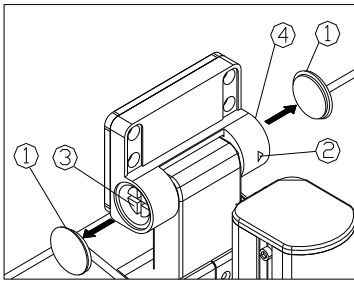

Fig. 4
- 1) Cuspidal tool opening the cap nuts① in two sides, Allen wrench screwing off two M3 hexagon screws② from the cap screws④, and screwing flat nuts④ to adjust tightness meanwhile Straight screwdriver keeping rotation axle③ still. (See Fig. 4)
- 2) Tightening two M3 hexagon screws②, then put cap nuts back.